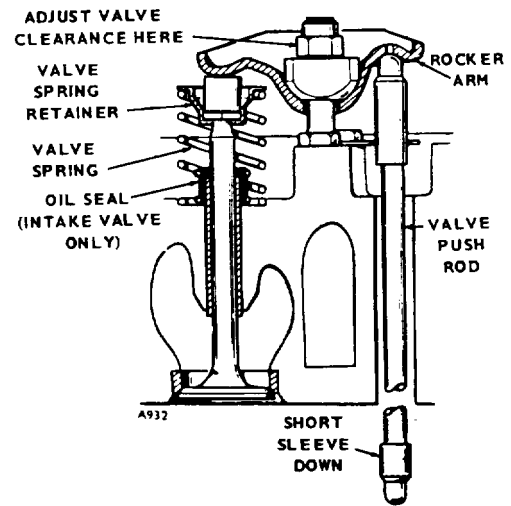

Fig. 1 Setting Valve Clearance
- (2) Now turn the flywheel clockwise an additional 10 to 45 degrees. There is no timing mark for this position, so it must be estimated. With the piston located in this position, it will be in its power stroke with both valves completely closed.
- (3) To change the setting of valve clearance, adjust the locknut which secures the rocker arm to the cylinder head (See Fig. 1). Loosen the locknut to increase clearance and tighten it to reduce clearance.